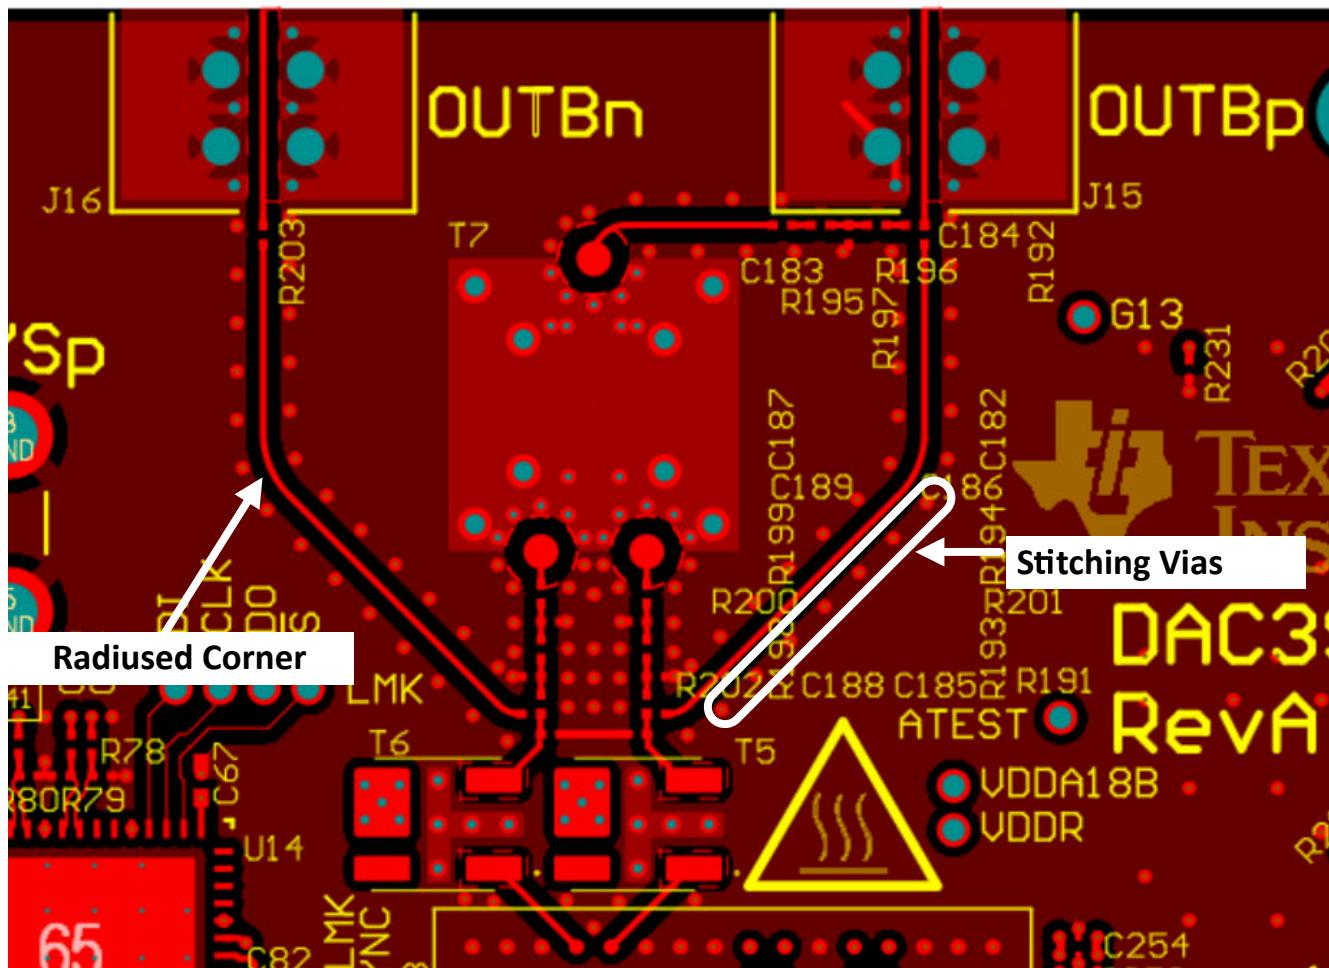

图 8-24. Radius Corner and Stitch Vias next to High_Speed Signal Trace
- Use smoothly radiused corners and avoid 45- or 90-degree bends to reduce impedance mismatches on all high-speed inputs/outputs for both analog and digital signal traces. See 图 8-24 as an example.
7. Provide symmetrically located ground tie stitching vias adjacent to any high-speed signal at an appropriate spacing as determined by the maximum frequency the trace transports ($\lambda/4$). See 図 8-24 as an example.